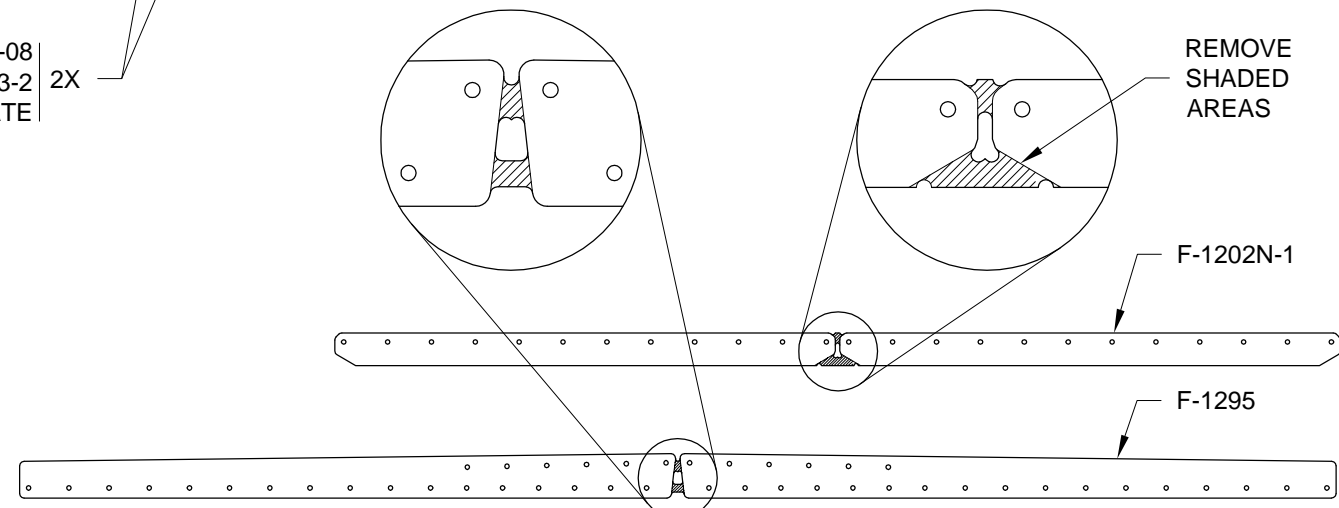

FIGURE 2: SEPARATING STIFFENERS (FLAT PATTERN SHOWN)
Step 5: Separate F-1202N-1 Fwd Skin Stiffener into F-1202N-1-L & -R and F-1295 Skin Stiffener into F-1295-L & -R as shown in Figure 2.